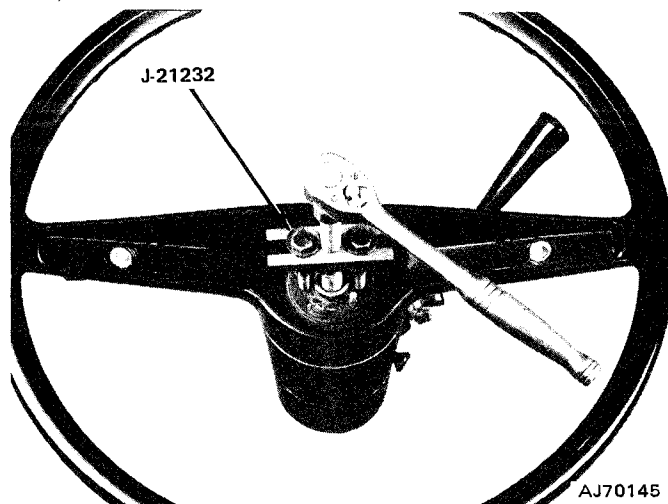

Fig. 2J-1 Steering Wheel Removal
- (1) Disconnect battery negative cable.
- (2) Place front wheels in straight-ahead position.
- (3) Remove rubber boot and horn button from steering wheel. Rotate button until lock tabs on button align with notches in contact cup and pull upward to remove.
- (4) Remove steering wheel nut and washer. On models with sport style wheel, remove button, nut and washer, button retaining ring, and horn contact ring.
- (5) Remove plastic horn contact cup retainer and remove horn contact cup and contact plate from steering wheel.
- (6) Remove horn contact pin and bushing from steering wheel.
- (7) Paint or scribe alignment marks on steering wheel and steering shaft for assembly reference.
- (8) Remove steering wheel using Puller J-21232 (fig. 2J-1).